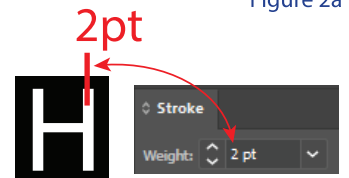

Figure 2b
- The smallest size for positive fonts is 6pts. The smallest size for negative fonts is 8pts. Please refer to **Line Thickness** for negative fonts. (Figure 2b)
- Negative line (light line on dark background) prints best at 2pts thickness.(Figure 2b)